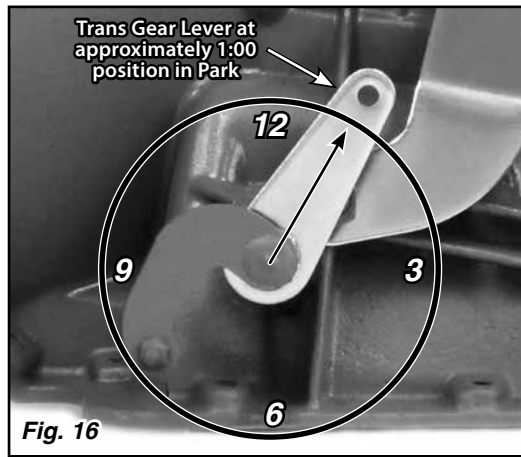

Fig. 16
Step 21: Place the trans gear lever in the Park position with the top of the lever pointing up and slightly towards the rear of the transmission, at about the 1:00 position. Fig. 16